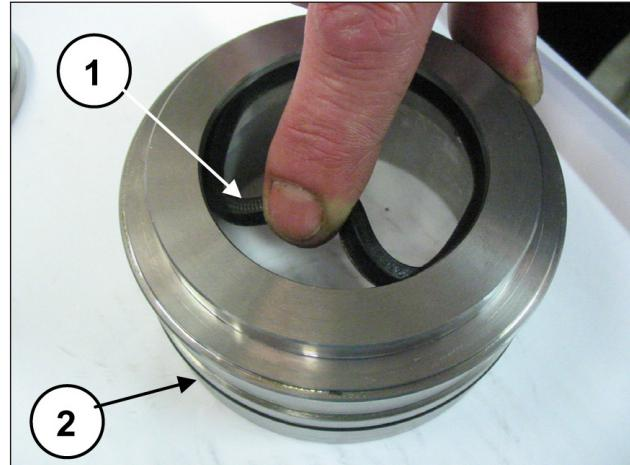

Fig. 196
Insert the low pressure seal in the KC seals support (pos. ①, Fig. 196) paying attention to the mounting direction which requires that the sealing lip be set forward (towards the head) and the O-ring (pos. ②, Fig. 196).